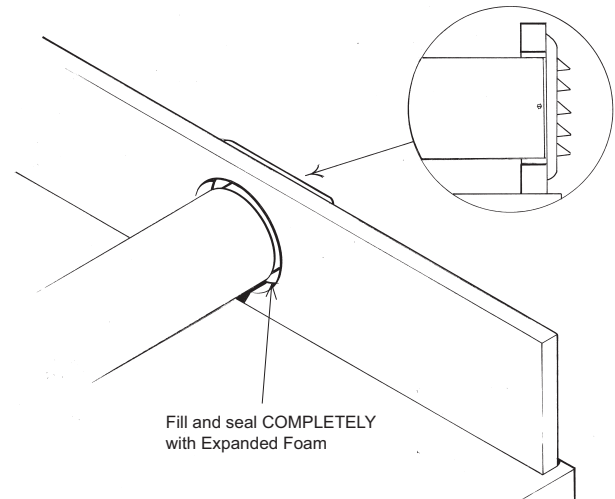

Figure 13
Determine outlet locations. Cut correct size hole. Cut a short piece of 6" round duct to connect to the fresh air inlet and exhaust air outlet hoods. For Model EERV100 or EERV200. Use 8" round duct for Model EERV300. Secure duct to inlet and outlet hood duct collars with installer supplied fasteners. Install hood and ductwork through penetration. See figure 13 for sealing duct penetration and duct collar.
3. The two wires from the ERV should be attached to the 'C' and 'R' positions on the terminal block on the back of the PT Control. See Figure 13.